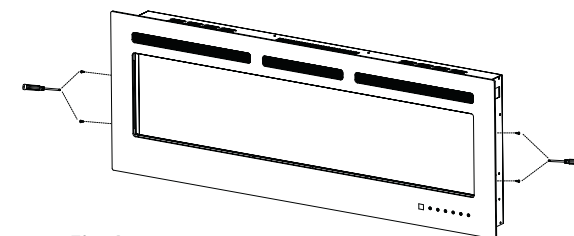

Fig. 8
- Place the unit with the front facing up on a soft, flat surface. Remove the screws located on both sides of the front glass panel (see Figure 8). Keep the screws for reinstalling the glass panel.